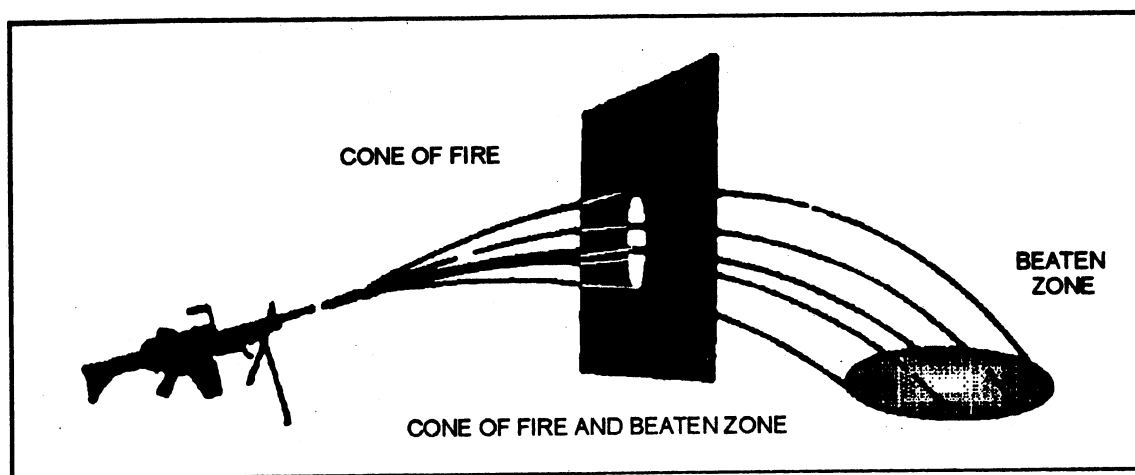

Fig 3-2. Cone of fire and beaten zone.
e. **Cone of fire.** When you fire a burst, the bullets do not all follow the same path. Vibrations of the gun and mount, variations in ammunition, and atmospheric conditions combine to cause each trajectory to differ slightly from the others in that burst. The pattern formed by these trajectories is cone-shaped and is referred to as the "cone of fire" (see fig 3-2).